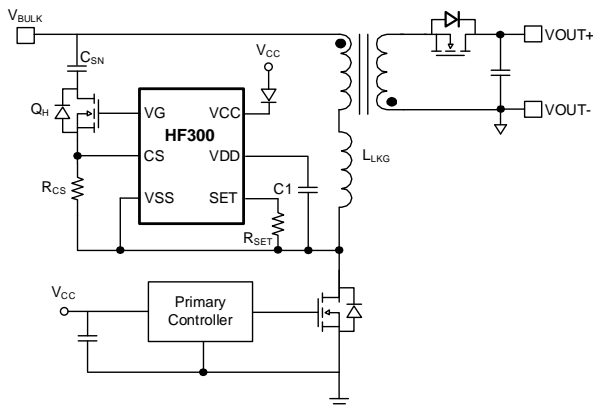
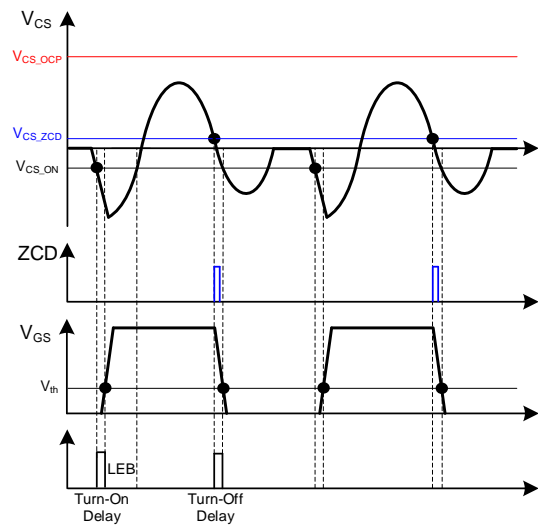
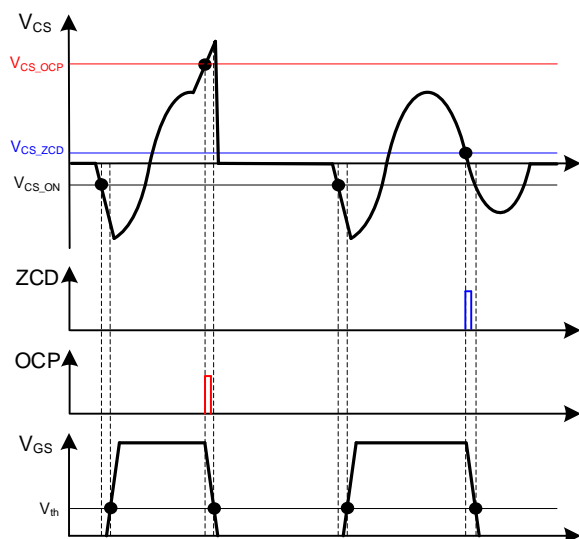

Figure 2: Typical Application Circuit
Figure 3: Key Operating Waveforms
Figure 4: OCP/Shoot-Through Prevention
The HF300 is an intelligent, high-frequency, flyback ideal clamping controller that recycles and reuses the leakage energy based on charge balance control. The HF300 supports discontinuous conduction mode (DCM), continuous conduction mode (CCM), quasi-resonant (QR) operation, and zero-voltage switching (ZVS) in flyback converters. Figure 2 shows the typical application circuit. Figure 3 and Figure 4 on page 10 show the HF300's key operating waveforms.
Once the HF300 is enabled, the CS pin senses the current from the leakage inductance (L_{LKG}) after the primary main switch turns off. When the CS pin voltage (V_{CS}) reaches the turn-on threshold (V_{CS_ON}), the gate driver turns on after a turn-on delay (t_{ON_DELAY}) (see Figure 3).
The control circuitry contains a blanking function. To avoid accidental, premature turn-off by the switching noise, an internal leading-edge blanking (LEB) unit is employed after the gate driver turns on (see Figure 3). During the blanking time, the turn-off comparator is disabled, and the gate driver cannot turn off.
During gate driver turn-on, the leakage energy is recycled into the clamping capacitor (C_{SN}), and then sent to the secondary-side output through a transformer when the leakage current (I_{LLKG}) has a negative resonance (i.e. the opposite direction/polarity). When the leakage is fully recycled and delivered again to the output, I_{LLKG} resonates back to 0A, and the gate driver turns off (see Figure 3).
When V_{CS} reaches the zero-current detection threshold (V_{CS_ZCD}), the gate driver turns off after a turn-off delay (t_{OFF_DELAY}) (see Figure 3 on page 9).
The HF300's cycle-by-cycle over-current protection (OCP) limits the C_{SN} maximum discharge current. Once V_{CS} reaches the OCP/shoot-through prevention threshold (V_{CS_OCP}), the gate driver turns off after the OCP/shoot-through prevention turn-off delay (t_{OCP_DELAY}) (see Figure 4).